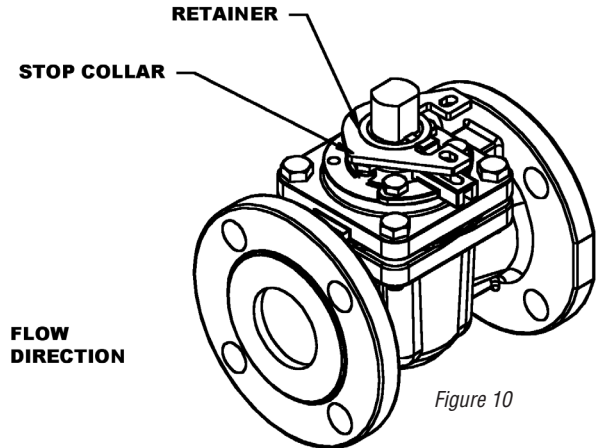

Figure 10
18. Place the stop collar (Part 14) and retainer (Part 15) on the plug stem as shown in Figure 10. The stop collar should point in the direction of the flow. Check the orientation based on the location marks made during disassembly (Section 3, step 1).